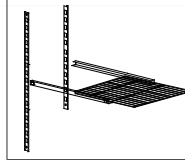

Figure 2
- Place the self-support inside the refrigerator, in the most suitable position for use, inserting each support in to the holes on the base of the refrigerator and inserting the side tab in the appropriate place on the sides or on the table supports. (Fig. 2)
- Slide the shelf into the supports as shown in (Fig. 2)